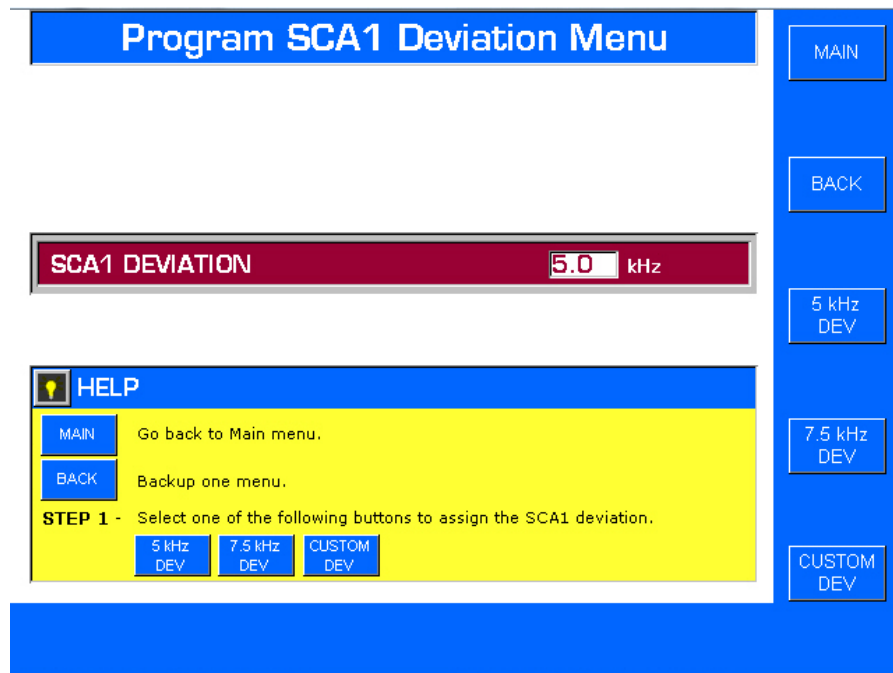

Figure 3-20. INTERNAL PROGRAM SCA1 DEVIATION MENU
- A. From SCA1 menu depress SCA1 DEV. The Internal Program SCA1 Deviation Menu will appear (refer to Figure 3-20).